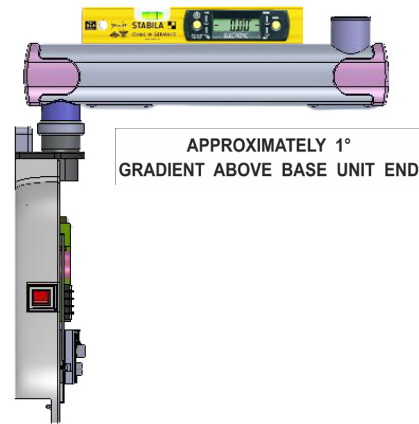

Figure 38
- Check the Straight-Arm level using spirit level. The Straight-Arm end should be at an angle of 1° gradient approximately above the base unit end as shown in Figure 38 . If the angle is less then check the Straight-Arm & the Base Unit for wear out.